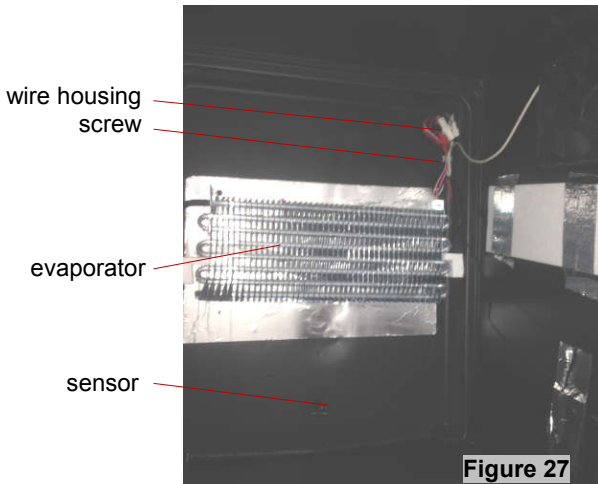

Figure 27
2. Loosen 1 screw. You can replace the sensor & fan. (figure 27)